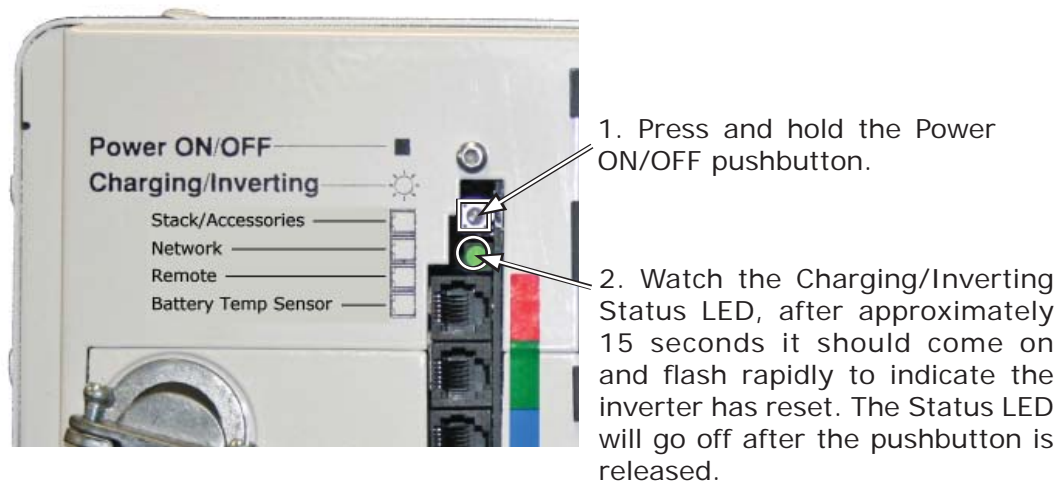

Figure 4-1, Performing an Inverter Reset
Certain faults require that the inverter be reset. To perform an inverter reset (also known as a soft reset), press and hold the Power ON/OFF button (see Figure 4-1) for approximately fifteen (15) seconds until the Charging/Inverting Status LED comes on and flashes rapidly. Once the rapid flashing has begun, release the Power ON/OFF button. The Status LED will go off after the button is released.